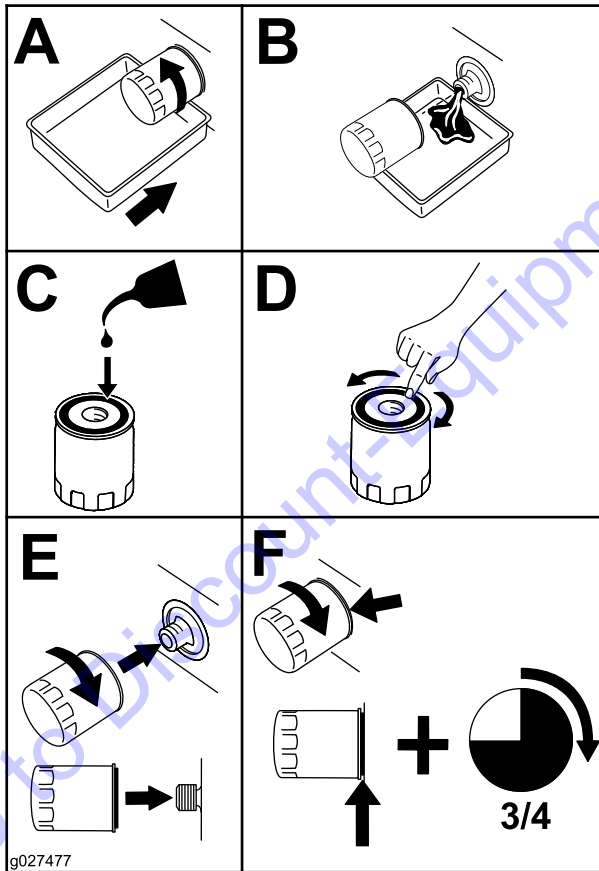

Figure 56
3. Replace the filter as shown in Figure 56.